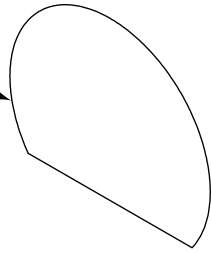

FIG. 2
3. Drill a 3/8" hole in each corner of the template. Using a jigsaw, cut a hole in the wall, following the template. Dry fit the soap dish in opening. Use a level, across the soap dish, to ensure proper placement. Trace guide lines on panel, for alignment when gluing in place. *See Figure 2.*